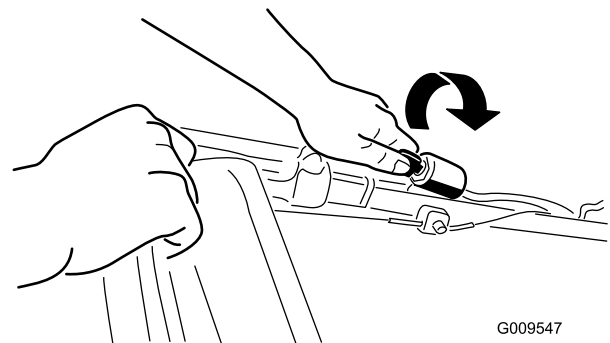
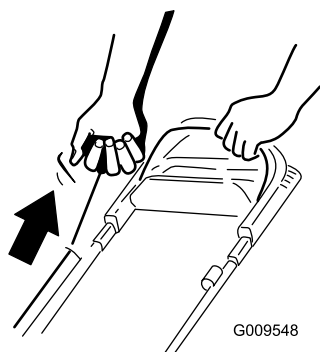

Figure 11
Figure 12
2. Turn the ignition key (Figure 11) (electric-start models only) or pull the recoil start handle (Figure 12).
Note: When you pull the recoil start handle, pull it lightly until you feel resistance, then pull it sharply (Figure 12). Allow the rope to return to the handle slowly.